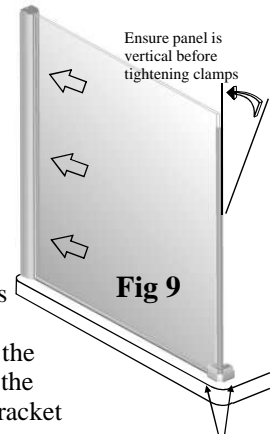
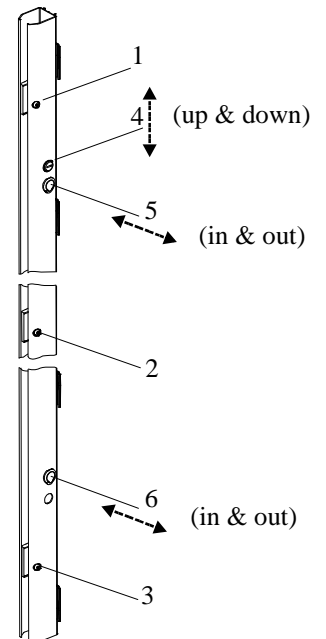

Fig 9
Fig. 19
4.2 Insert large side panel into wall profile glass clamps (see Fig.9) with the soft seal onto the tray and the fitted corner bracket to the front. Move the panel in or out until the corner bracket is spaced equal distance from the front edge of the tray as it is from the side face of the tray. Ensure the panel is vertical then fully tighten the 3 glass clamps screws using 2.5mm allen key supplied (see Fig 19). If after adjusting for vertical, the corner bracket is not seated firmly on the tray, loosen grub screws and tap the bracket down onto the tray (caution - do not exceed 5mm adjustment on this bracket) Pack between bracket and tray if you require more adjustment. Repeat for right side return panel.
14 FINAL CHECK AND ADJUSTMENT, Open and close the sliding doors and check that they run smoothly. If not, check that the frame is vertical (in to out) and not twisted. If necessary the frame can be adjusted using the lateral adjustment screws see Fig. 19 in guide to adjustments stage 8